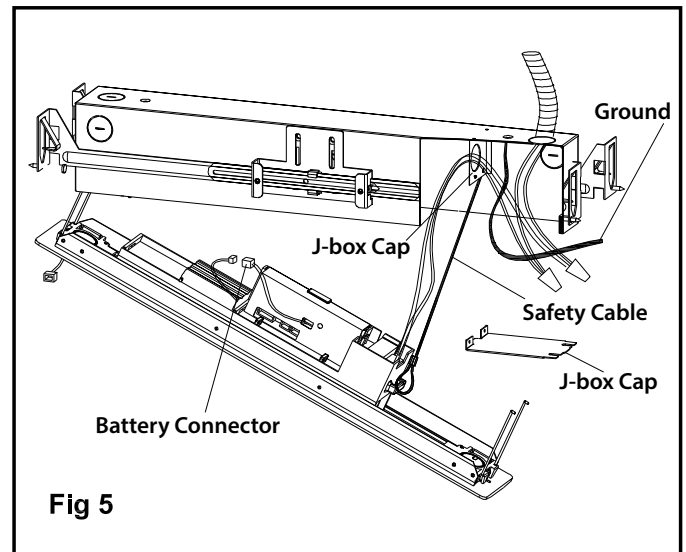

Fig 5
2. Separate trim plate, press one side spring to take out the module, connect battery connectors. (see Fig 5)
3. Hang safe rope to the module clip. (see Fig 5)
4. Disassemble J-box cap, Route the AC line and proper wires into the J-Box. (see Fig 5)